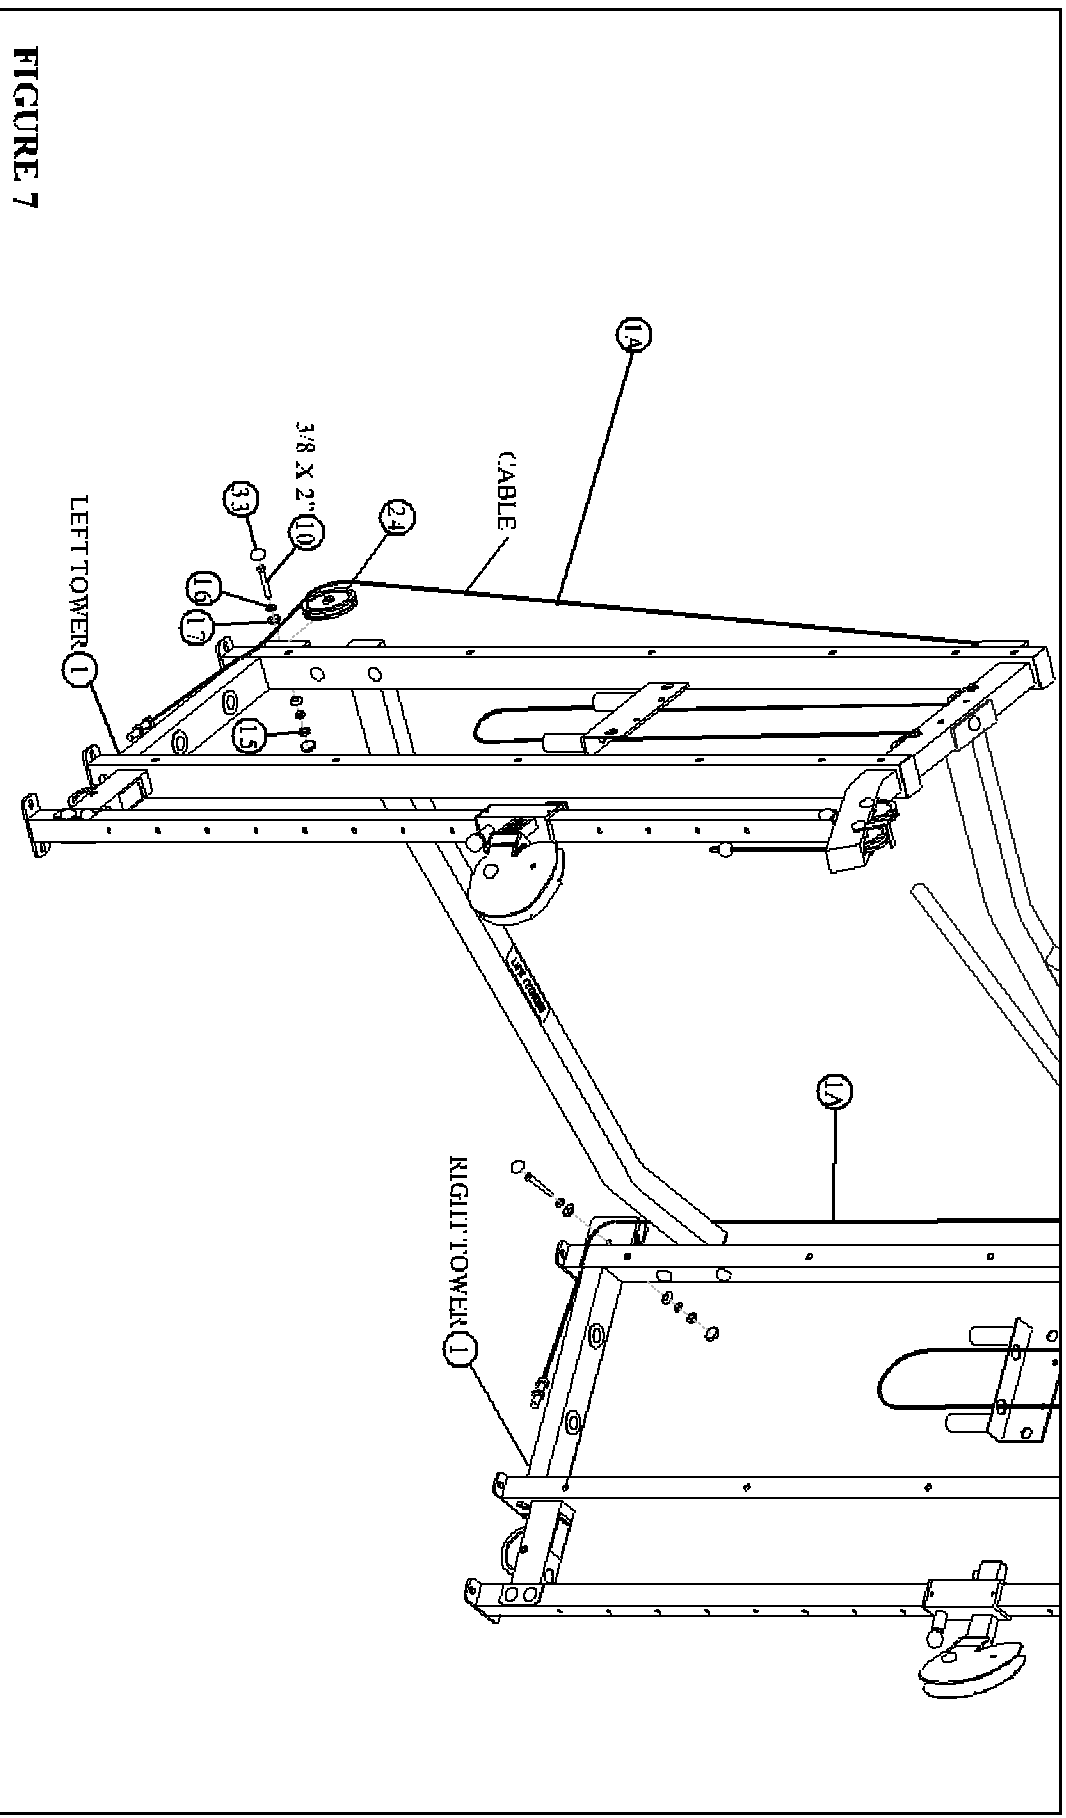

FIGURE 7
- Route the threaded end of CABLE through the LEFT TOWER (1) as shown, then over one 4-1/2" PULLEY (24) and SECURELY assemble the 4-1/2" PULLEY (24) to the LEFT TOWER (1) using two RI CAPS (33), one 3/8 X 2" BOLT (10), two 3/8" SAE WASHERS (16), two 3/8" RI WASHERS (17) and one 3/8" LOW HEIGHT LOCK NUT (15) as shown in FIGURE 7.
- Repeat this step to assemble one 4-1/2" PULLEY (24) to the RIGHT TOWER (1).